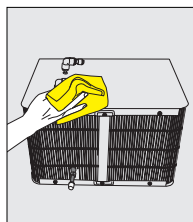
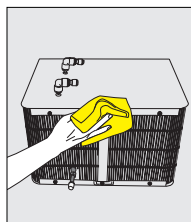

Figure 17
Figure 18
**External:** With the electrical power off, use only mild dishwashing liquid or cleaning products and a soft cloth for cleaning the exterior surfaces. **DO NOT USE** bleach or abrasive cleaners. Use a vacuum cleaner to remove dirt and lint from the condenser (Figure 17 and Figure 18). The unit should be cleaned every 3 months.